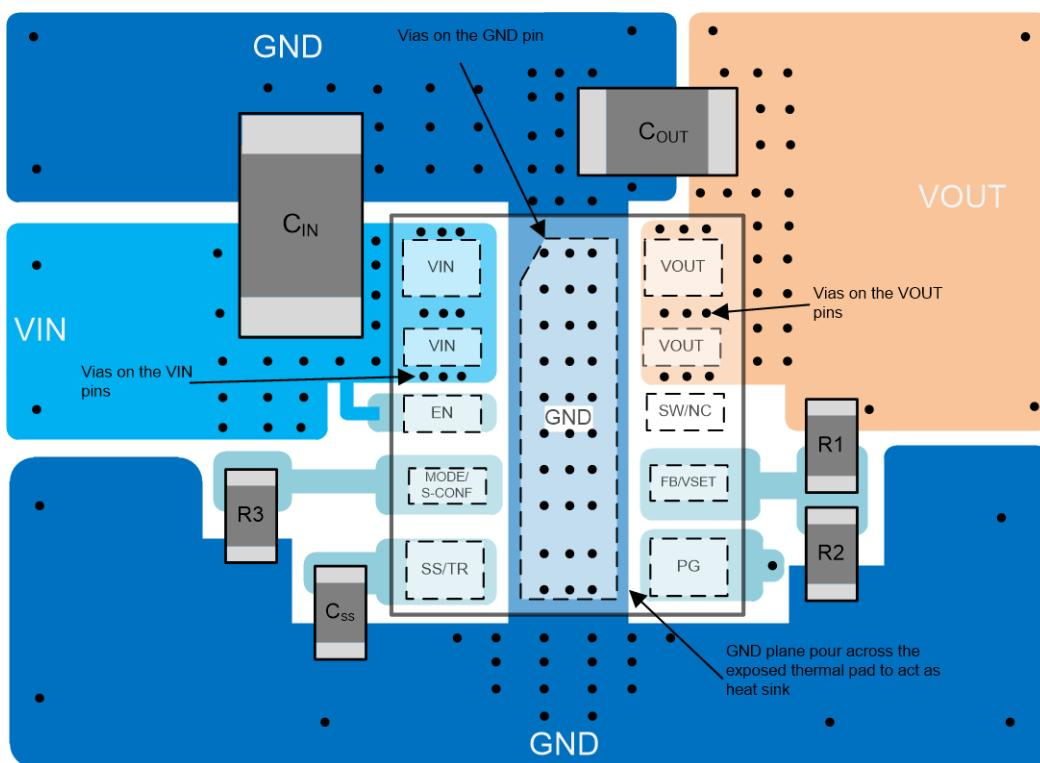

Figure 8-61. Layout
- See Figure 8-61 for the recommended layout of the TPSM82902, which is designed for common external ground connections. TI recommends placing all components as close as possible to the package pins. The input and output capacitors placement specifically, must be closest to the VIN, VOUT, and GND pins of the TPSM82902.
- Refer to Figure 8-61 for an example of component placement, routing and thermal design. The recommended layout is implemented on the EVM and shown in its user's guide.
- Generate as large a GND plane as allowable on the top and bottom layers, especially right near the package. The exposed thermal pad of the device sits right at the middle of the package. This is ideal for thermal dissipation. To take advantage of that, TI recommends the ground plan to cross through the package to allow maximum ground plan connection with the exposed pad. See Figure 8-61 how the north ground pour is connecting with the south ground pour as it crosses through the exposed pad of the package.
- Refer to Figure 8-61 for an example of component placement, routing and thermal design.